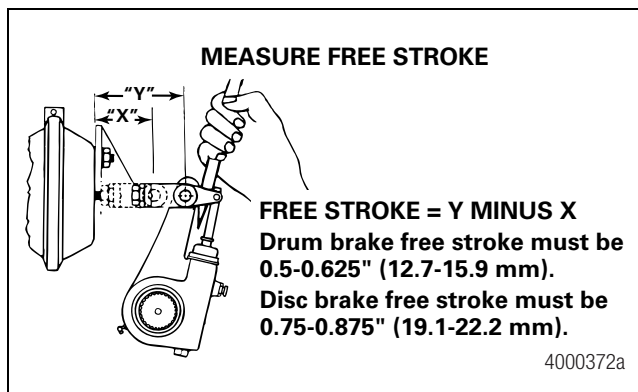

Figure 13
3. Measure the distance from the center of the large clevis pin to the bottom of the air chamber while the brake is released. The measurement you obtain is X in Figure 13.
4. Use a pry bar to move the slack adjuster and position the linings against the drum, brakes applied. Measure the same distance again while the brakes are applied. The measurement you obtain is Y in Figure 13.
5. Subtract X from Y to obtain the in-service free stroke. The measurement must be 0.5-0.625-inch (12.7-15.9 mm) for drum brakes. Figure 13.